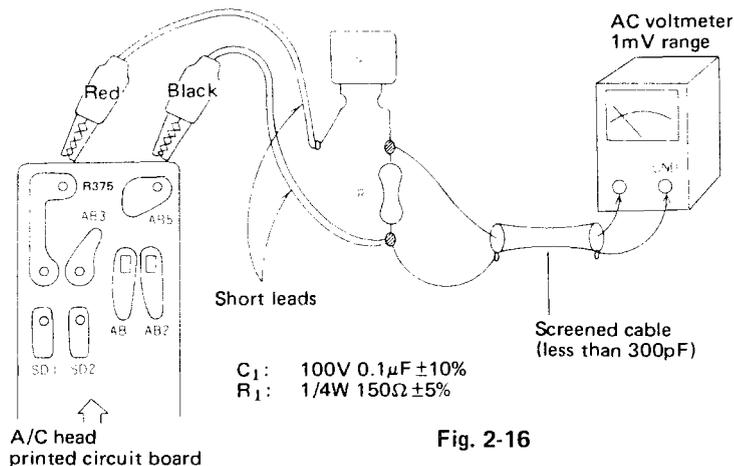

Fig. 2-16
3. Connect an AC voltmeter provided with the high-pass filter shown, across R375 on PCB-A/C, as illustrated in Fig. 2-16.